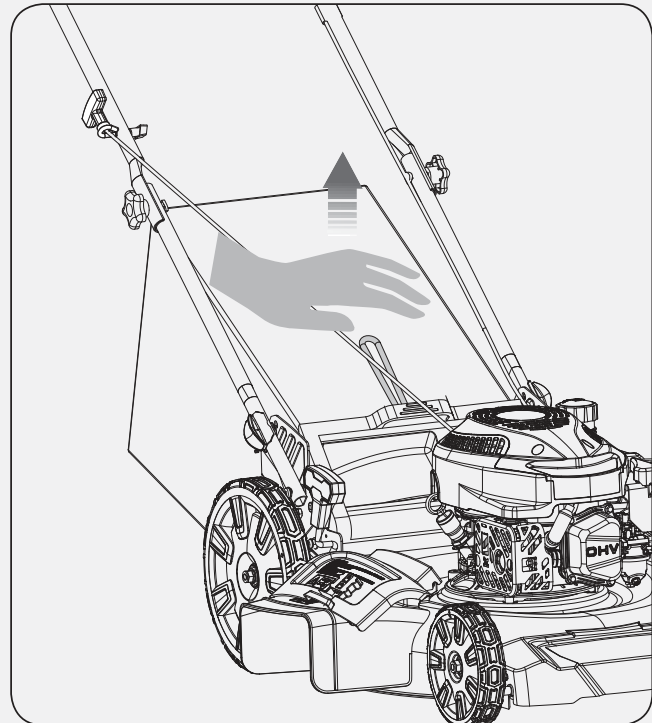

Figure 13
- Lift the grass catcher with the frame handle. (See Figure 13)